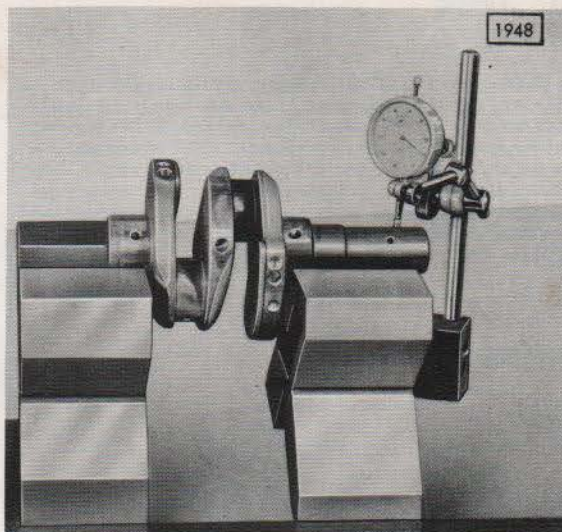

Fig. 11
- 1) Crankshaft check bearing points for balance (see fig.11)